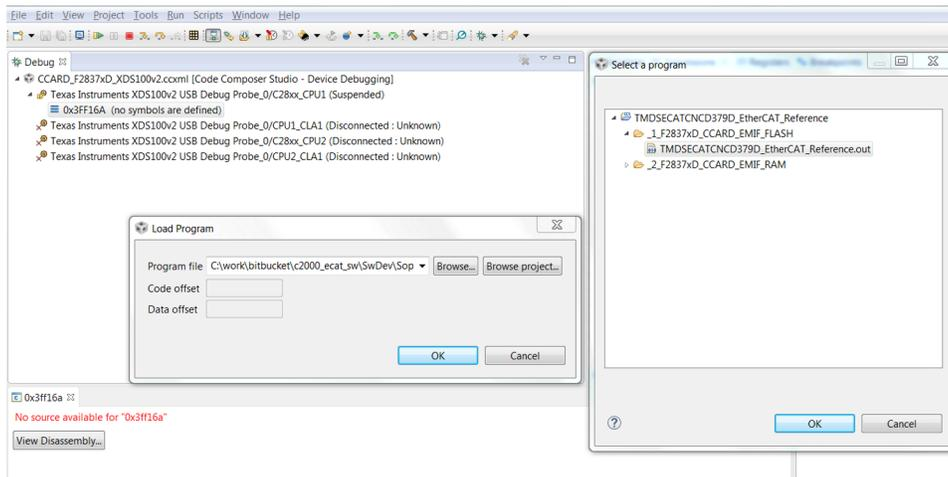

Figure 26. Load Program
11. Go to Run → Load Program → Browse project..., and select the OUT file just built and click OK. This step should load the program in flash if you built a FLASH build configuration (see Figure 26).